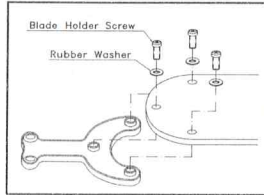

Figure 6
- Unpack hardware package. See Figure 6